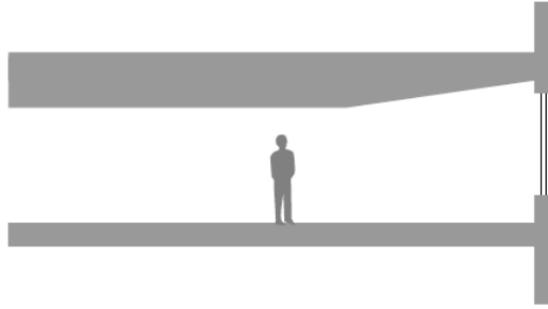

Figure 8: A sloping ceiling at the perimeter raises the window head without increasing floor-to-floor height.
- **Position windows to direct light onto the ceiling.** Taller ceilings and high windows provide the opportunity for better light distribution. Keep the ceiling smooth and light-colored. A sloped ceiling (high near the window, as shown in Figure 8) is one way to fit a high window within normal floor-to-floor heights.